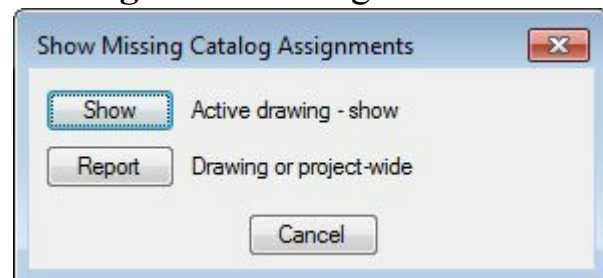

Figure-13. Show Missing Catalog Assignments dialog box
- Click on the **Missing Catalog Data** tool from the **Schematic** panel. The **Show Missing Catalog Assignments** dialog box will be displayed; refer to Figure-13.